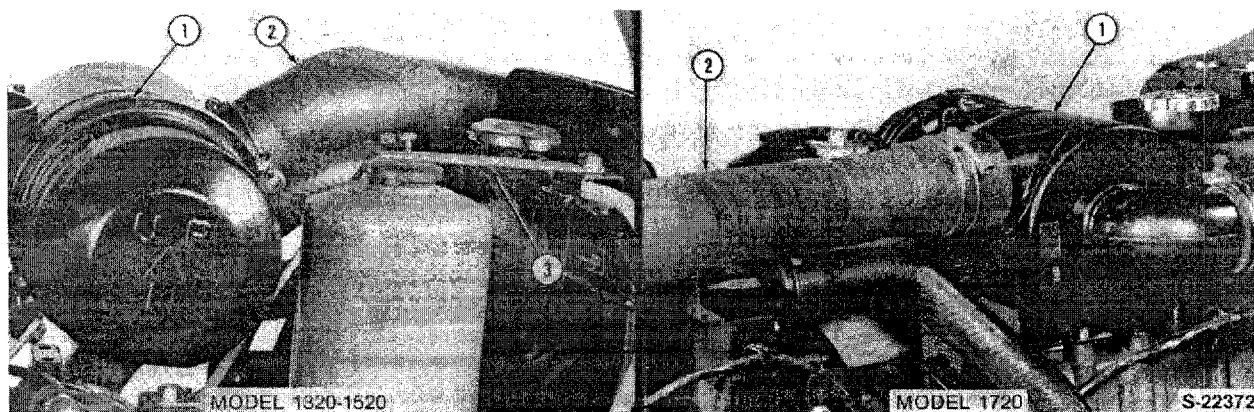

Figure 2
2. Remove the air cleaner assembly along with the air cleaner hoses, Figure 2.
3. Remove the upper radiator hose from the cylinder head, Figure 2.
Remove the radiator support brace from the cylinder head, Figure 2.